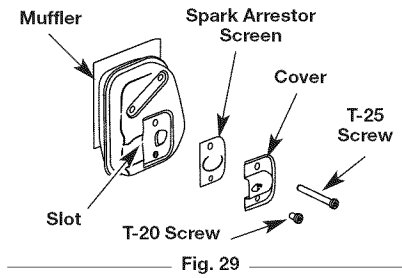

Fig. 29
2. With a flat blade screwdriver or Torx T-20 bit and a T-25 bit, remove the screws attaching the spark arrestor cover to the muffler (Fig. 29).